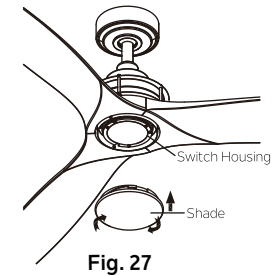

Fig. 27
Step 8. Secure the shade to switch housing by twisting in a clockwise direction. Do not over-tighten. (Fig. 27)